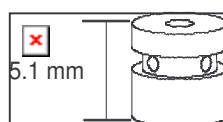

Figure 77 – Mixer Height
- 2) Measure the height of the mixer. The mixer (Berger Ball or HDS) should measure 5.1 mm in height (Figure 77). If the mixer is smaller than this, it has been damaged and should be replaced.